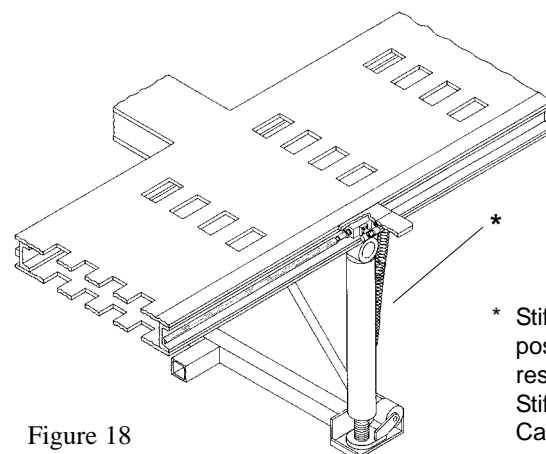

Figure 18
3. Press 'up' button on remote control switch to lift machine until stiff legs are in upright position. Then press 'down' button to lower stiff legs into their respective stiff leg catch. (See Figure 18.)